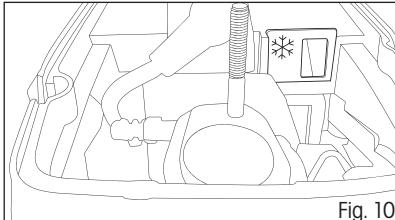

Fig. 10
- Set the flap located behind the air filter to the winter position, see fig. 10. The winter position symbol „Snowflake“ must be visible. Thanks to this setting, cold air is drawn in together with the warm air from around the cylinder and therefore ice does not form in the carburettor.